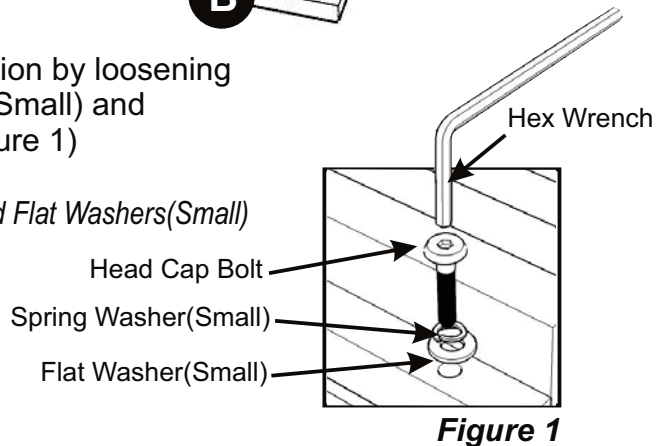

Figure 1
Remove Table Slides (F) from their packing position by loosening and removing Head Cap Bolts, Spring Washers (Small) and Flat Washers (Small) using Hex Wrench. (see Figure 1)